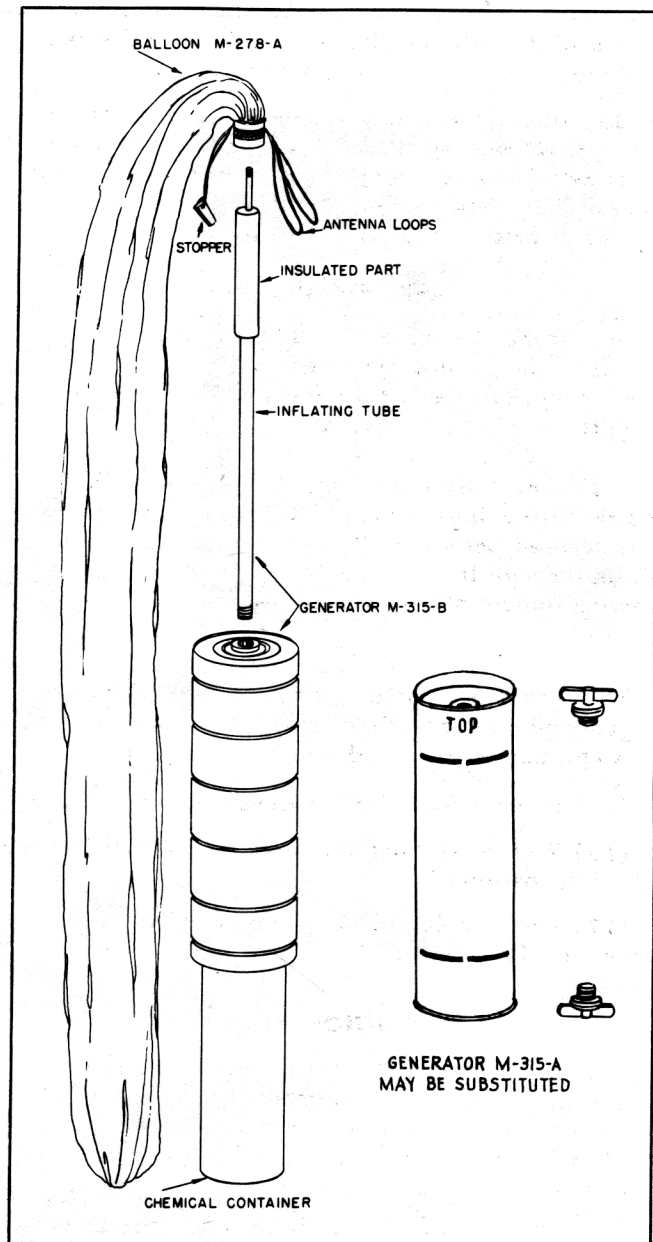

Figure 2-8. Balloon M-278-A—Inflation Setup
(7) Allow the inner can to drop down from the bottom of the generator. (See fig. 2-8.) Then pull the can out a little farther until it locks into position. Twist it slightly if necessary.